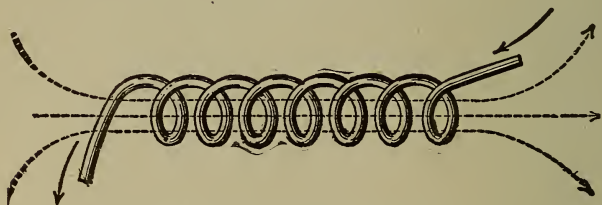
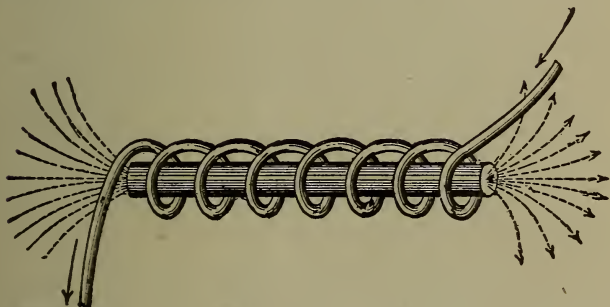

Fig. 99. Flux in a Solenoid.
Fig. 100. Flux in a Magnet: i. e., a Solenoid with Iron Core.
*Answer.* (1) Material of core.
(2) Length of core.
(3) Number of turns of wire in coil.
(4) Current in coil.
(5) Shape of magnet.
*Answer.* To answer this clearly let us go back a little. A solenoid such as shown in Fig. 99 has a certain flux whose density is calculated by the following rule.
Let us take a solenoid like Fig. 99 and slip a wrought iron core into it making a magnet as in Fig. 100. Have the area of the bars' end one square inch (a bar  $1\frac{1}{8}$  inches in diameter has a cross section of practically 1 square inch).